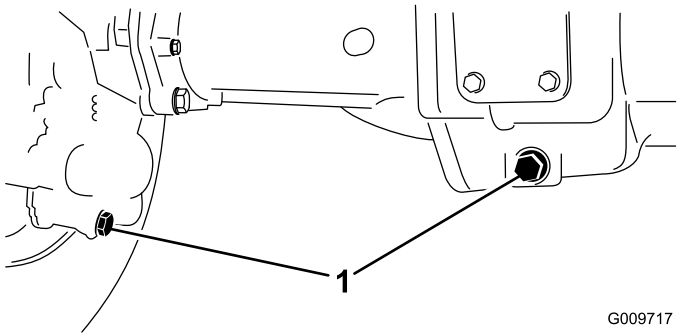

Figure 106
2. Clean the area around the 3 drain plugs—1 on each end and 1 in the center (Figure 106).